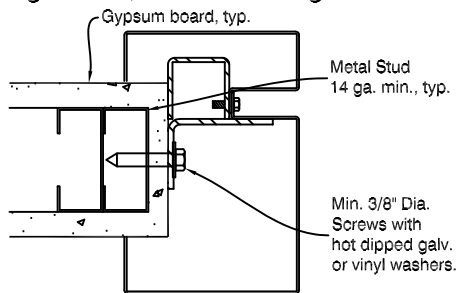

Fig. 10
d. When fastening to a double(2) metal stud jamb, each stud is to be minimum of 14 gauge. Fasten using a min. of 3/8" dia. self-tapping screws, as shown in Fig. 10.